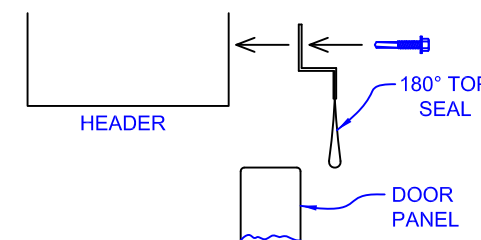

Figure 11
LOCATE THE TOP SEAL, SEE FIGURE 11 (PART WILL BE IN A SEPARATE BOX), PLACE THE TOP SEAL ONTO THE HEADER, CENTERED IN THE OPENING. THERE IS A SLIT ON EACH END THAT WILL FIT OVER THE HINGE SEALS ⑤. ALLOW THE BOTTOM PORTION TO TOUCH THE TOP OF THE DOOR PANEL/PANELS, SEE FIGURE 11.